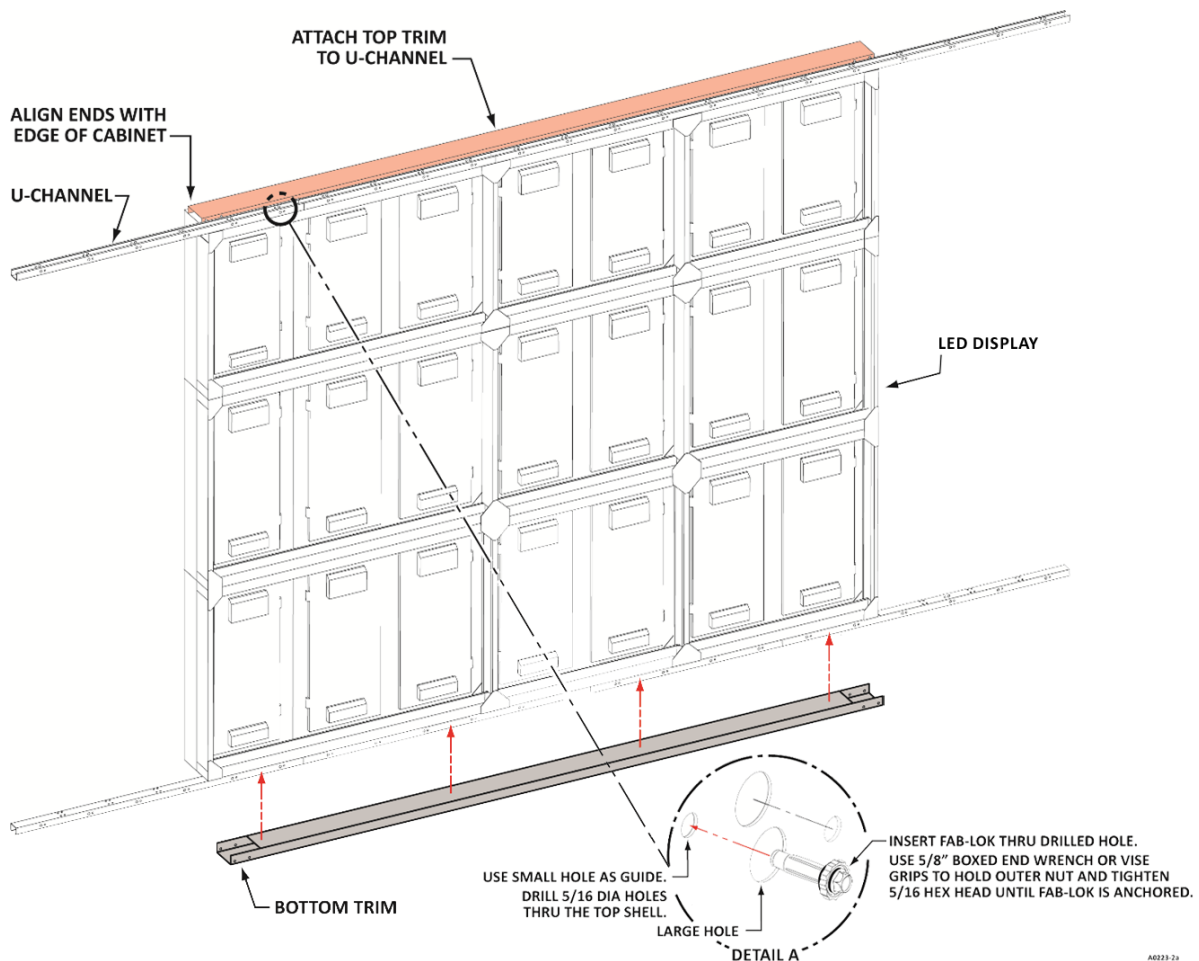

FIGURE 14 – TOP/BOTTOM TRIM TO LED DISPLAY SECTION
- b. In a typical trim kit installation, the top and bottom trim piece(s) must be flat against the U-channel on the top and bottom of the frame. The trim piece(s) should be flush with the sides of the LED display, but any gaps should be spaced evenly between the left and right side. See Figure 14 below.